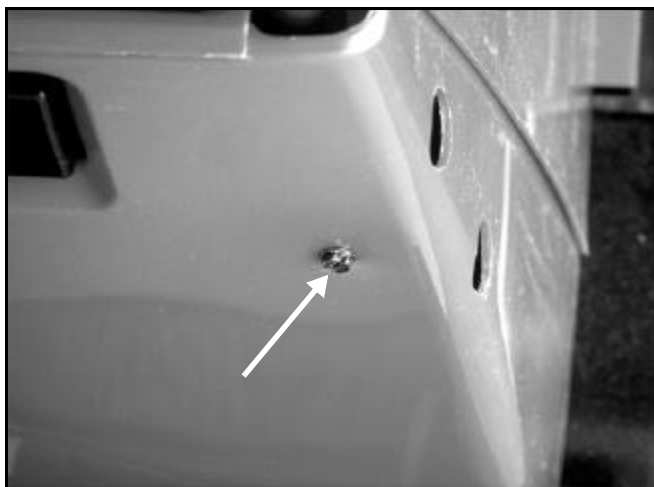

Figure 131 1352-02
3. Remove the two bolts (Figure 131) holding the upper shroud to the handle.